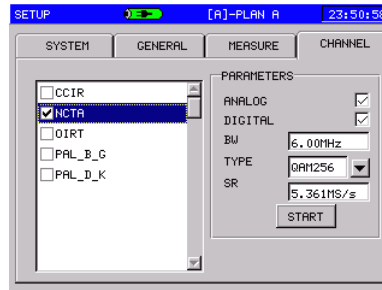

Figure3-1-5
- Turn knob to select **LEARN USER PLAN**, and press the knob, pop-up interface in Figure3-1-5.